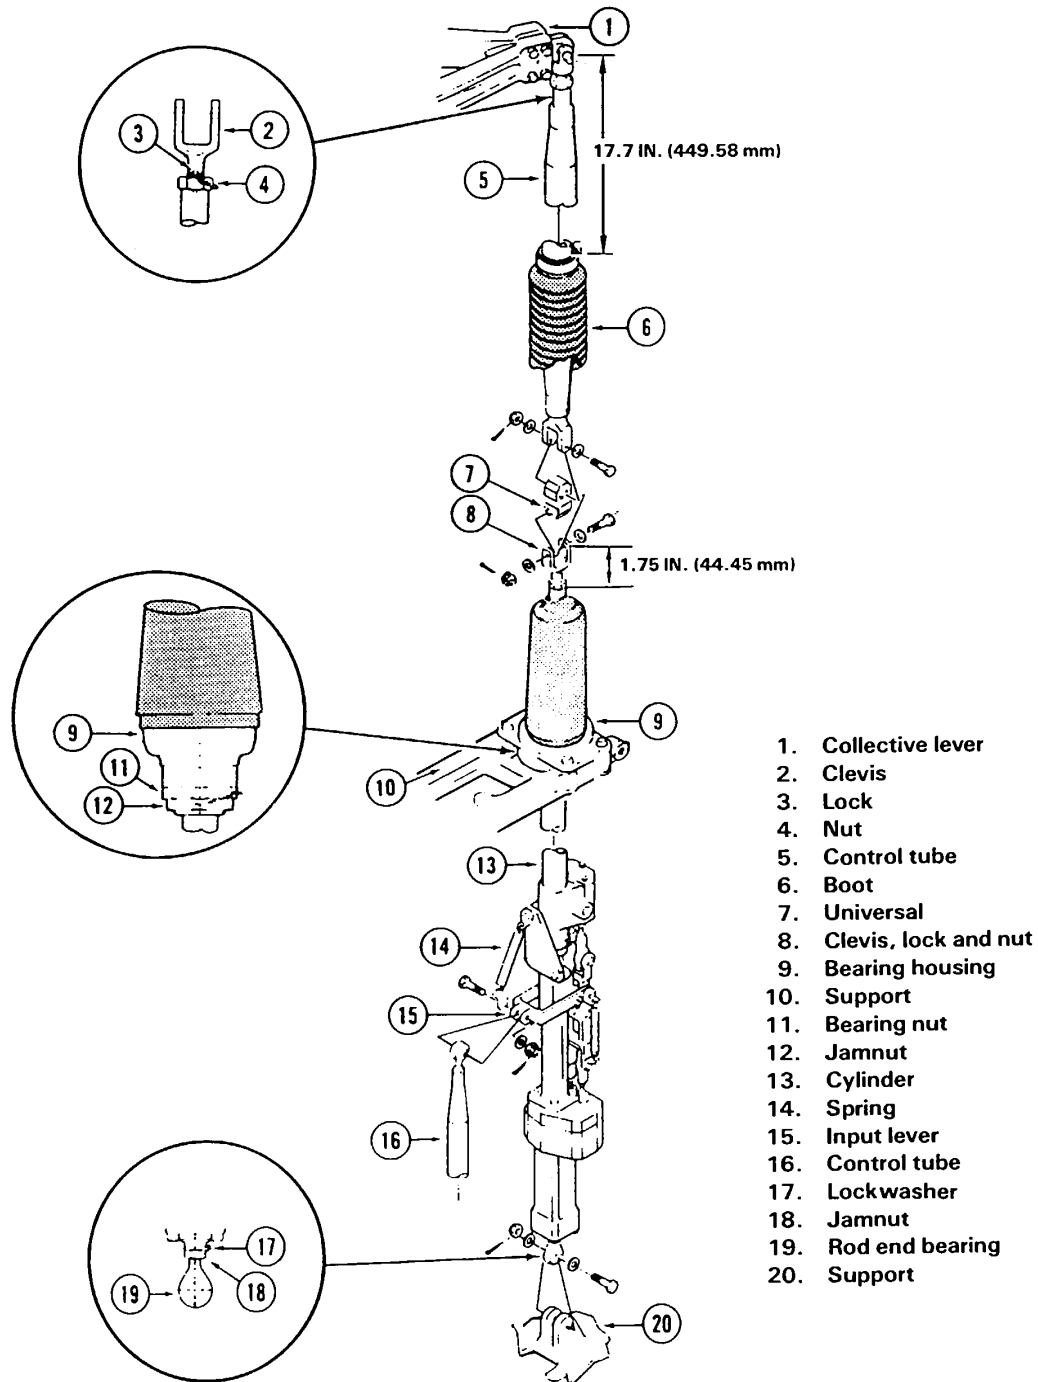

Figure 29-7. Collective Hydraulic Cylinder
29.3.8.1.3 Detach lower end of spring (14, Figure 29-7) and disconnect control tube (16) from input lever (15). If cylinder is to be replaced, retain spring (14) for use in reinstallation.
29.3.8.2.2.1 Remove cotter pin, nut, washer and bolt from rod end bearing (19, Figure 29-7).
29.3.8.3.1 Coat threads of clevis (8, Figure 29-7) with corrosion preventive compound (C- 101).
29.3.8.3.6 Adjust bearing nut (11, Figure 29-7) and jamnut (12) to allow easy movement of cylinder in bearing housing (9) during installation.